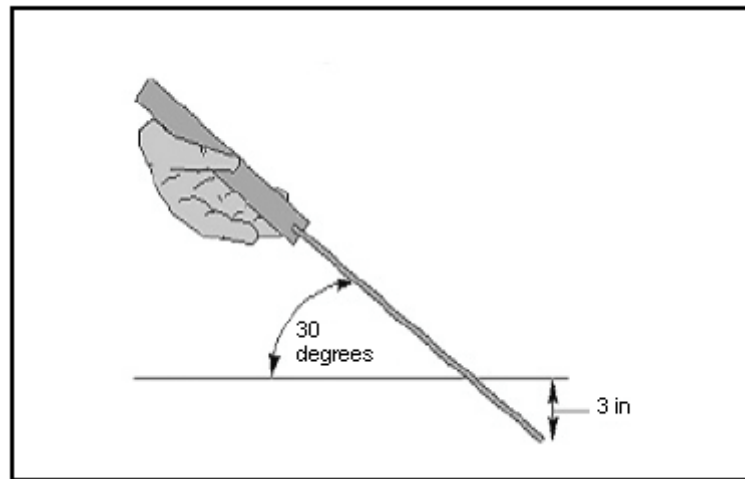

Figure 052-192-1135-1
- (3) *Probe* the area around your feet and as far forward as comfortable.
- (b) Apply just enough pressure on the probe to sink it slowly into the ground at a 30-degree angle and to a depth of 3 inches (Figure 052-192-1135-1).